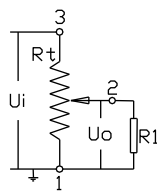

Figure 2A
5.3 The best way is to use the potentiometer as a four-terminal element for adjusting voltage of voltage divider. For wiring, you’d better choose terminal “1”for grounding and R1 (The load resistance of The potentiometer) should be not smaller than ten times as  $R_t$  (See figure 2A).